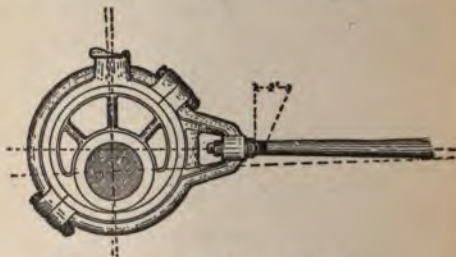

FIG. 108.—ECCENTRIC AND ROD.
A. The lines 1 and 2 on the disc plate represent its travel. The first eccentric rod will require no adjustment if placed as in Fig. 108, it being so marked on every engine, and the measurement from nut to mark being always two inches. Secure the ~~eccen-~~